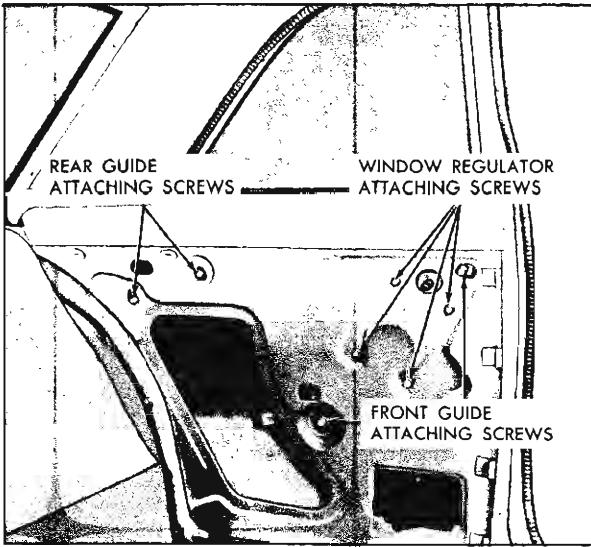

Fig. 13-3 Rear Quarter Hardware Attachment
2. Remove (2) most rearward screws from rear section of door sill plate. Disengage pinchweld finishing strip from beneath door sill plate and pinchweld flange to a point above belt line (Fig. 13-3).
2. With window in "up" position remove rear quarter window rear guide attaching screws (Fig.13-3) and remove rear guide.
To adjust rear quarter window, remove rear quarter trim assembly. Loosen both front and rear guide attaching screws (Fig. 13-3). Operate window to full "up" position, making sure window is all the way forward and up into the run channels. Install wrench on front guide upper attaching screw and tighten screw while forcing screw and guide as far forward as possible. Repeat procedure on lower attaching screw. Install wrench to forward attaching screw of rear guide and tighten screw while forcing screw and guide as far upward as possible. Lower window to full "down" position and tighten rear attaching screw.
2. Loosen rear quarter window front guide upper attaching bolt. Remove window regulator attaching bolts (Fig. 13-3) and remove regulator through access hole.
2. Remove rear quarter window front guide attaching bolts (Fig. 13-3). Disengage guide from roller on window lower sash channel and remove guide through access hole.
2. Remove rear quarter window rear guide attaching bolts (Fig. 13-3). Disengage guide from roller on window lower sash channel and remove guide through access hole.